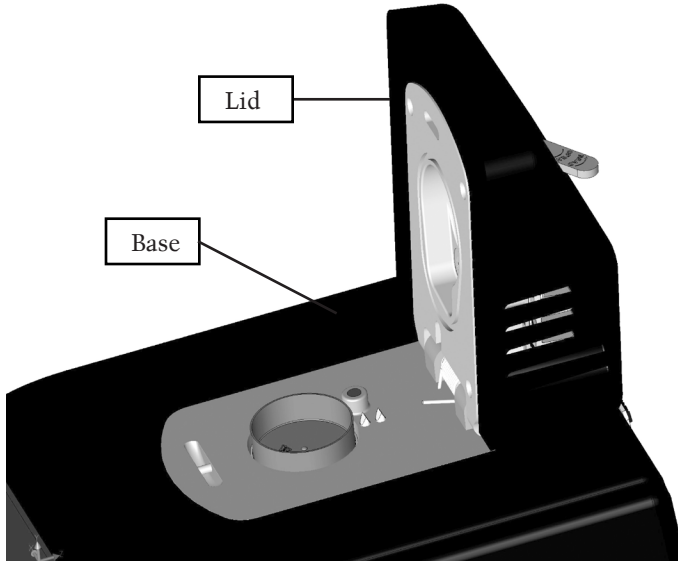

Figure 5: Sample chamber
- To verify, remove weigh pan and then place sample cup containing one of AquaLab's verification standards in sample chamber. Close lid and carefully avoid spillage; See Figure 5: Sample Chamber.